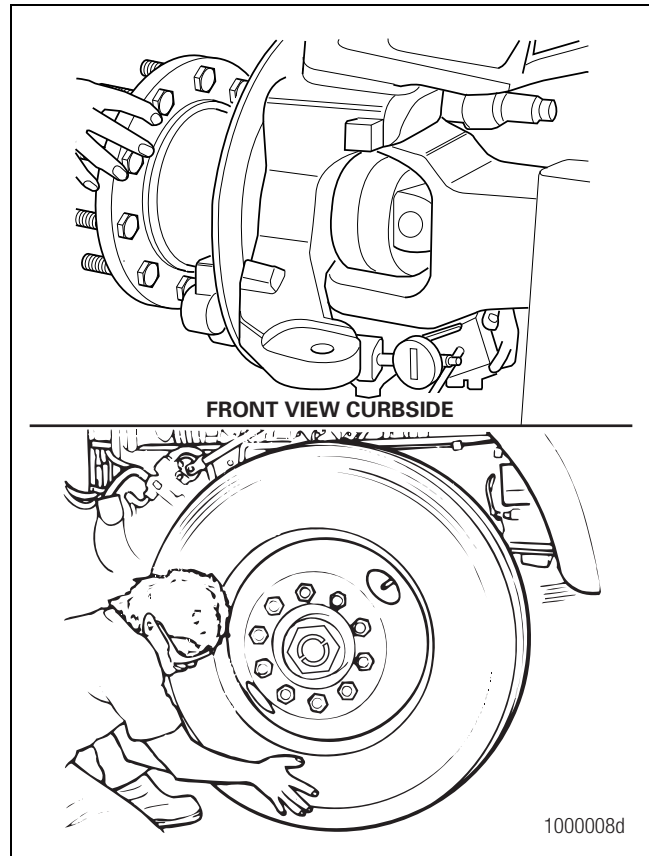

Figure 5.8
6. Check the lower king pin bushing. Install a dial indicator so that the base is on the I-beam and the tip is against the side of the bottom of the knuckle. Figure 5.8.
- **If the dial indicator moves a total of 0.010-inch (0.254 mm):** The lower bushing is worn or damaged. Replace both bushings in the knuckle. Refer to the appropriate maintenance manual for complete service information. Figure 5.8.